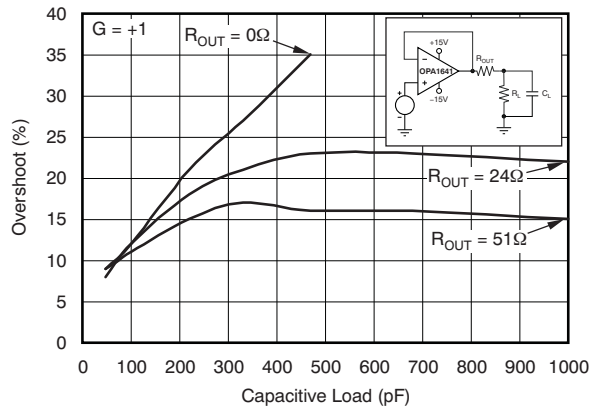
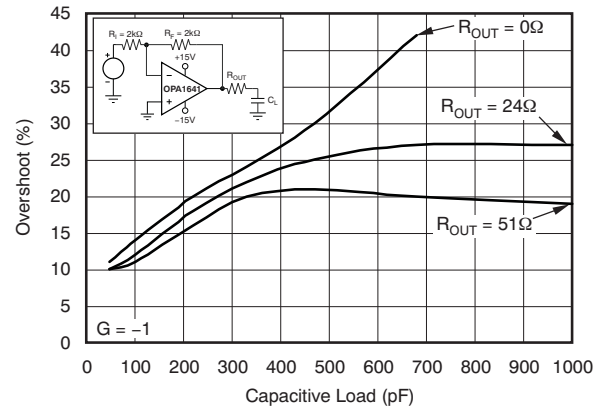

Figure 19. Small-Signal Overshoot vs Capacitive Load (100-mV Output Step)
Figure 20. Small-Signal Overshoot vs Capacitive Load (100-mV Output Step)
(1) Full power bandwidth = $SR / (2\pi \times V_P)$, where SR = slew rate.
(2) See Figure 19 and Figure 20.